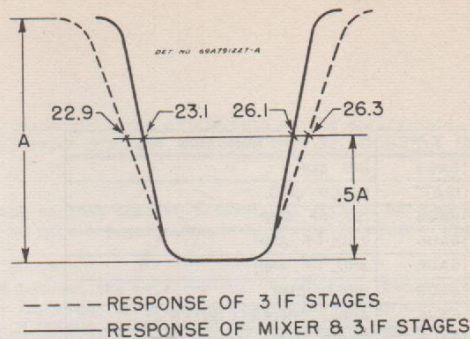

FIGURE 6. IF & MIXER RESPONSE CURVES
9. Adjust the 1st IF coil, L-10, to place a 26.3 mc marker signal 50% (1/2) the way up the high side of the response waveform. Refer to Figure 6 for marker positions on waveform obtained.
**NOTE:** It may be necessary to repeat the procedure to obtain the proper waveform. See Figure 6.
12. Bring both cores of transformer T-9\*\*\* simultaneously from extreme outside positions toward the center until the 26.1 mc marker is 50% (1/2) way up the high frequency slope, and the 23.1 mc marker is 50% (1/2) way up the low frequency slope. Correct waveform is shown in Figure 6.
The bandwidth may be determined with an AM generator by doubling the input required to produce 1 volt at the video detector and tuning to each side of 24.6 mc until the meter again reads 1 volt. These frequencies correspond to the 6 db (50%) points on the skirts of the curve. The bandwidth will decrease from that shown in Figure 6 because the battery bias on the 1st IF tube has been removed, but the two 6 db points should be at least 2.3 mc apart. By making a plot of frequency versus voltage, the actual IF response curve may be traced out.